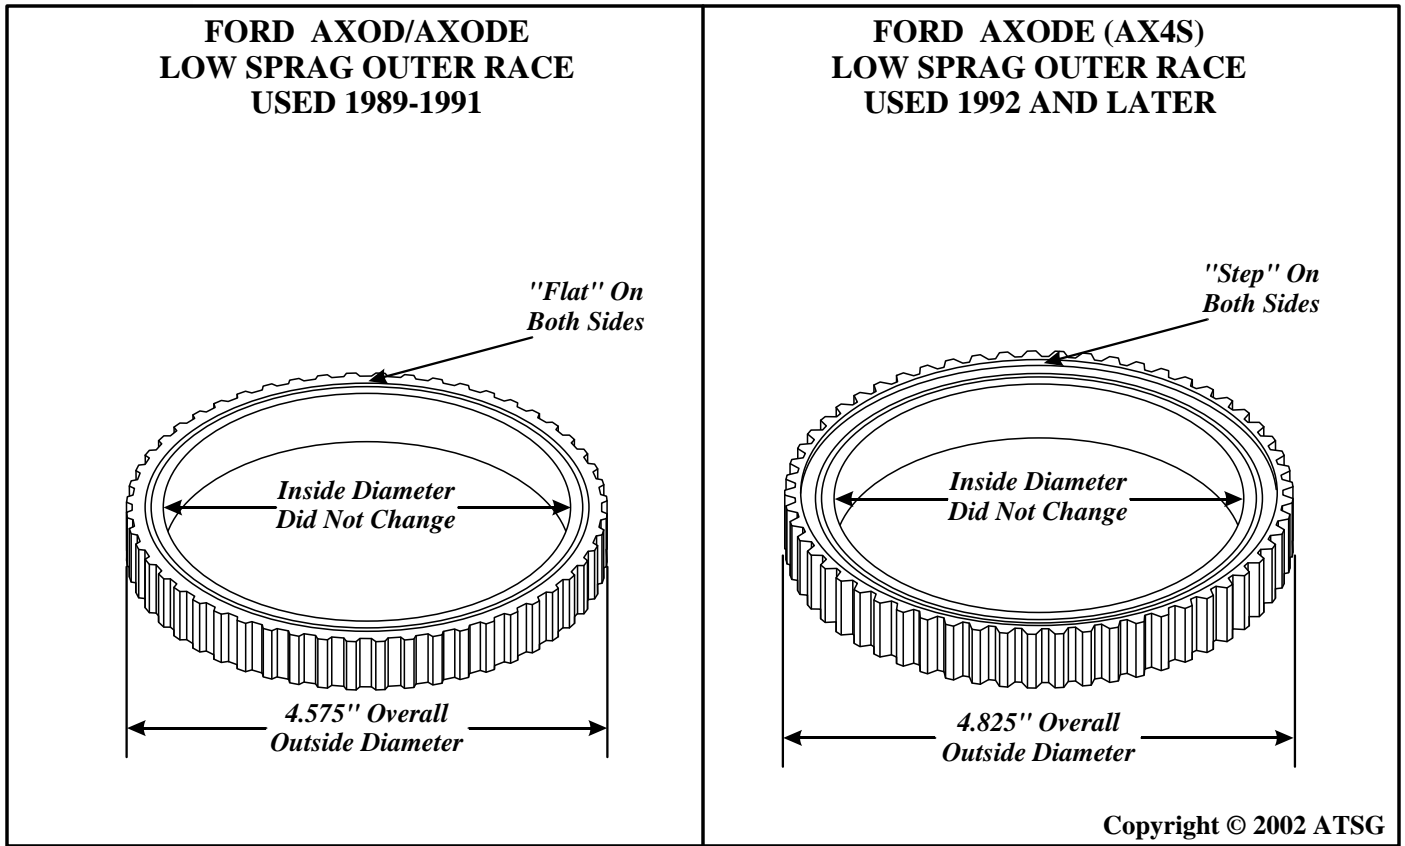

Figure 57
- (1) LOW SPRAG OUTER RACE - The outer diameter of the race was increased from 4.575" to 4.825", and the width of the race was increased from .600" to .725", as shown in Figure 57. *The Inside Diameter of the sprag race Did Not Change.*